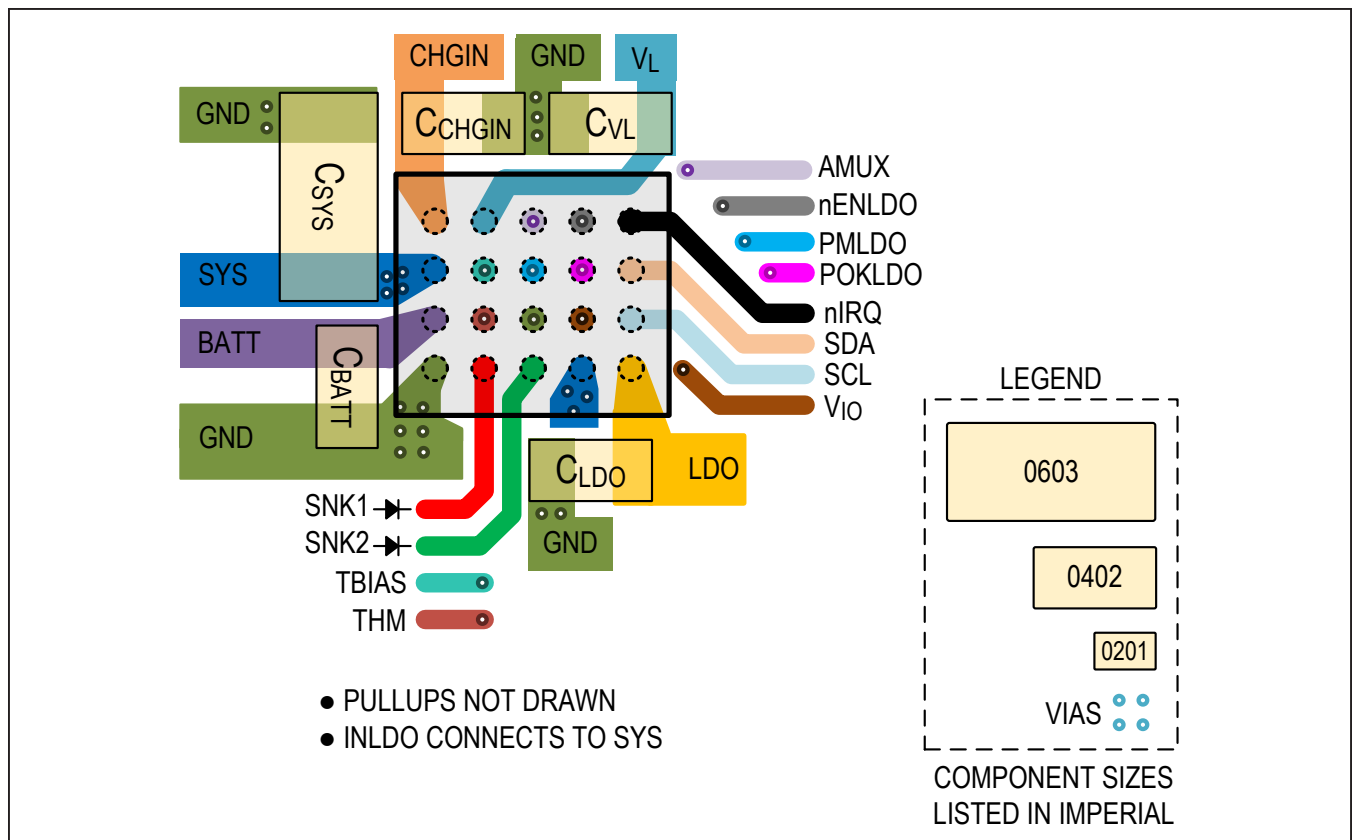

Figure 15. PCB Top-Metal and Component Layout Example
- 3) If INLDO has a different power source (other than SYS), then a separate INLDO decoupling capacitor (not drawn in Figure 15) is recommended.
Figure 15 shows an example PCB top-metal layout with 0.2mm component-to-component spacing.